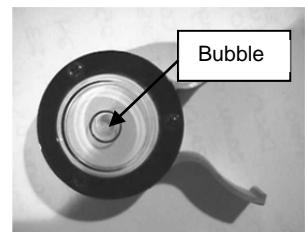

Figure 30
15. Before the Easytrack post tightens against the ceiling; check the clip-on level to make sure the bubble is in the centre of the circle. Tilt the post until the bubble reaches the centre of the circle (see Figure 29 and Figure 30).